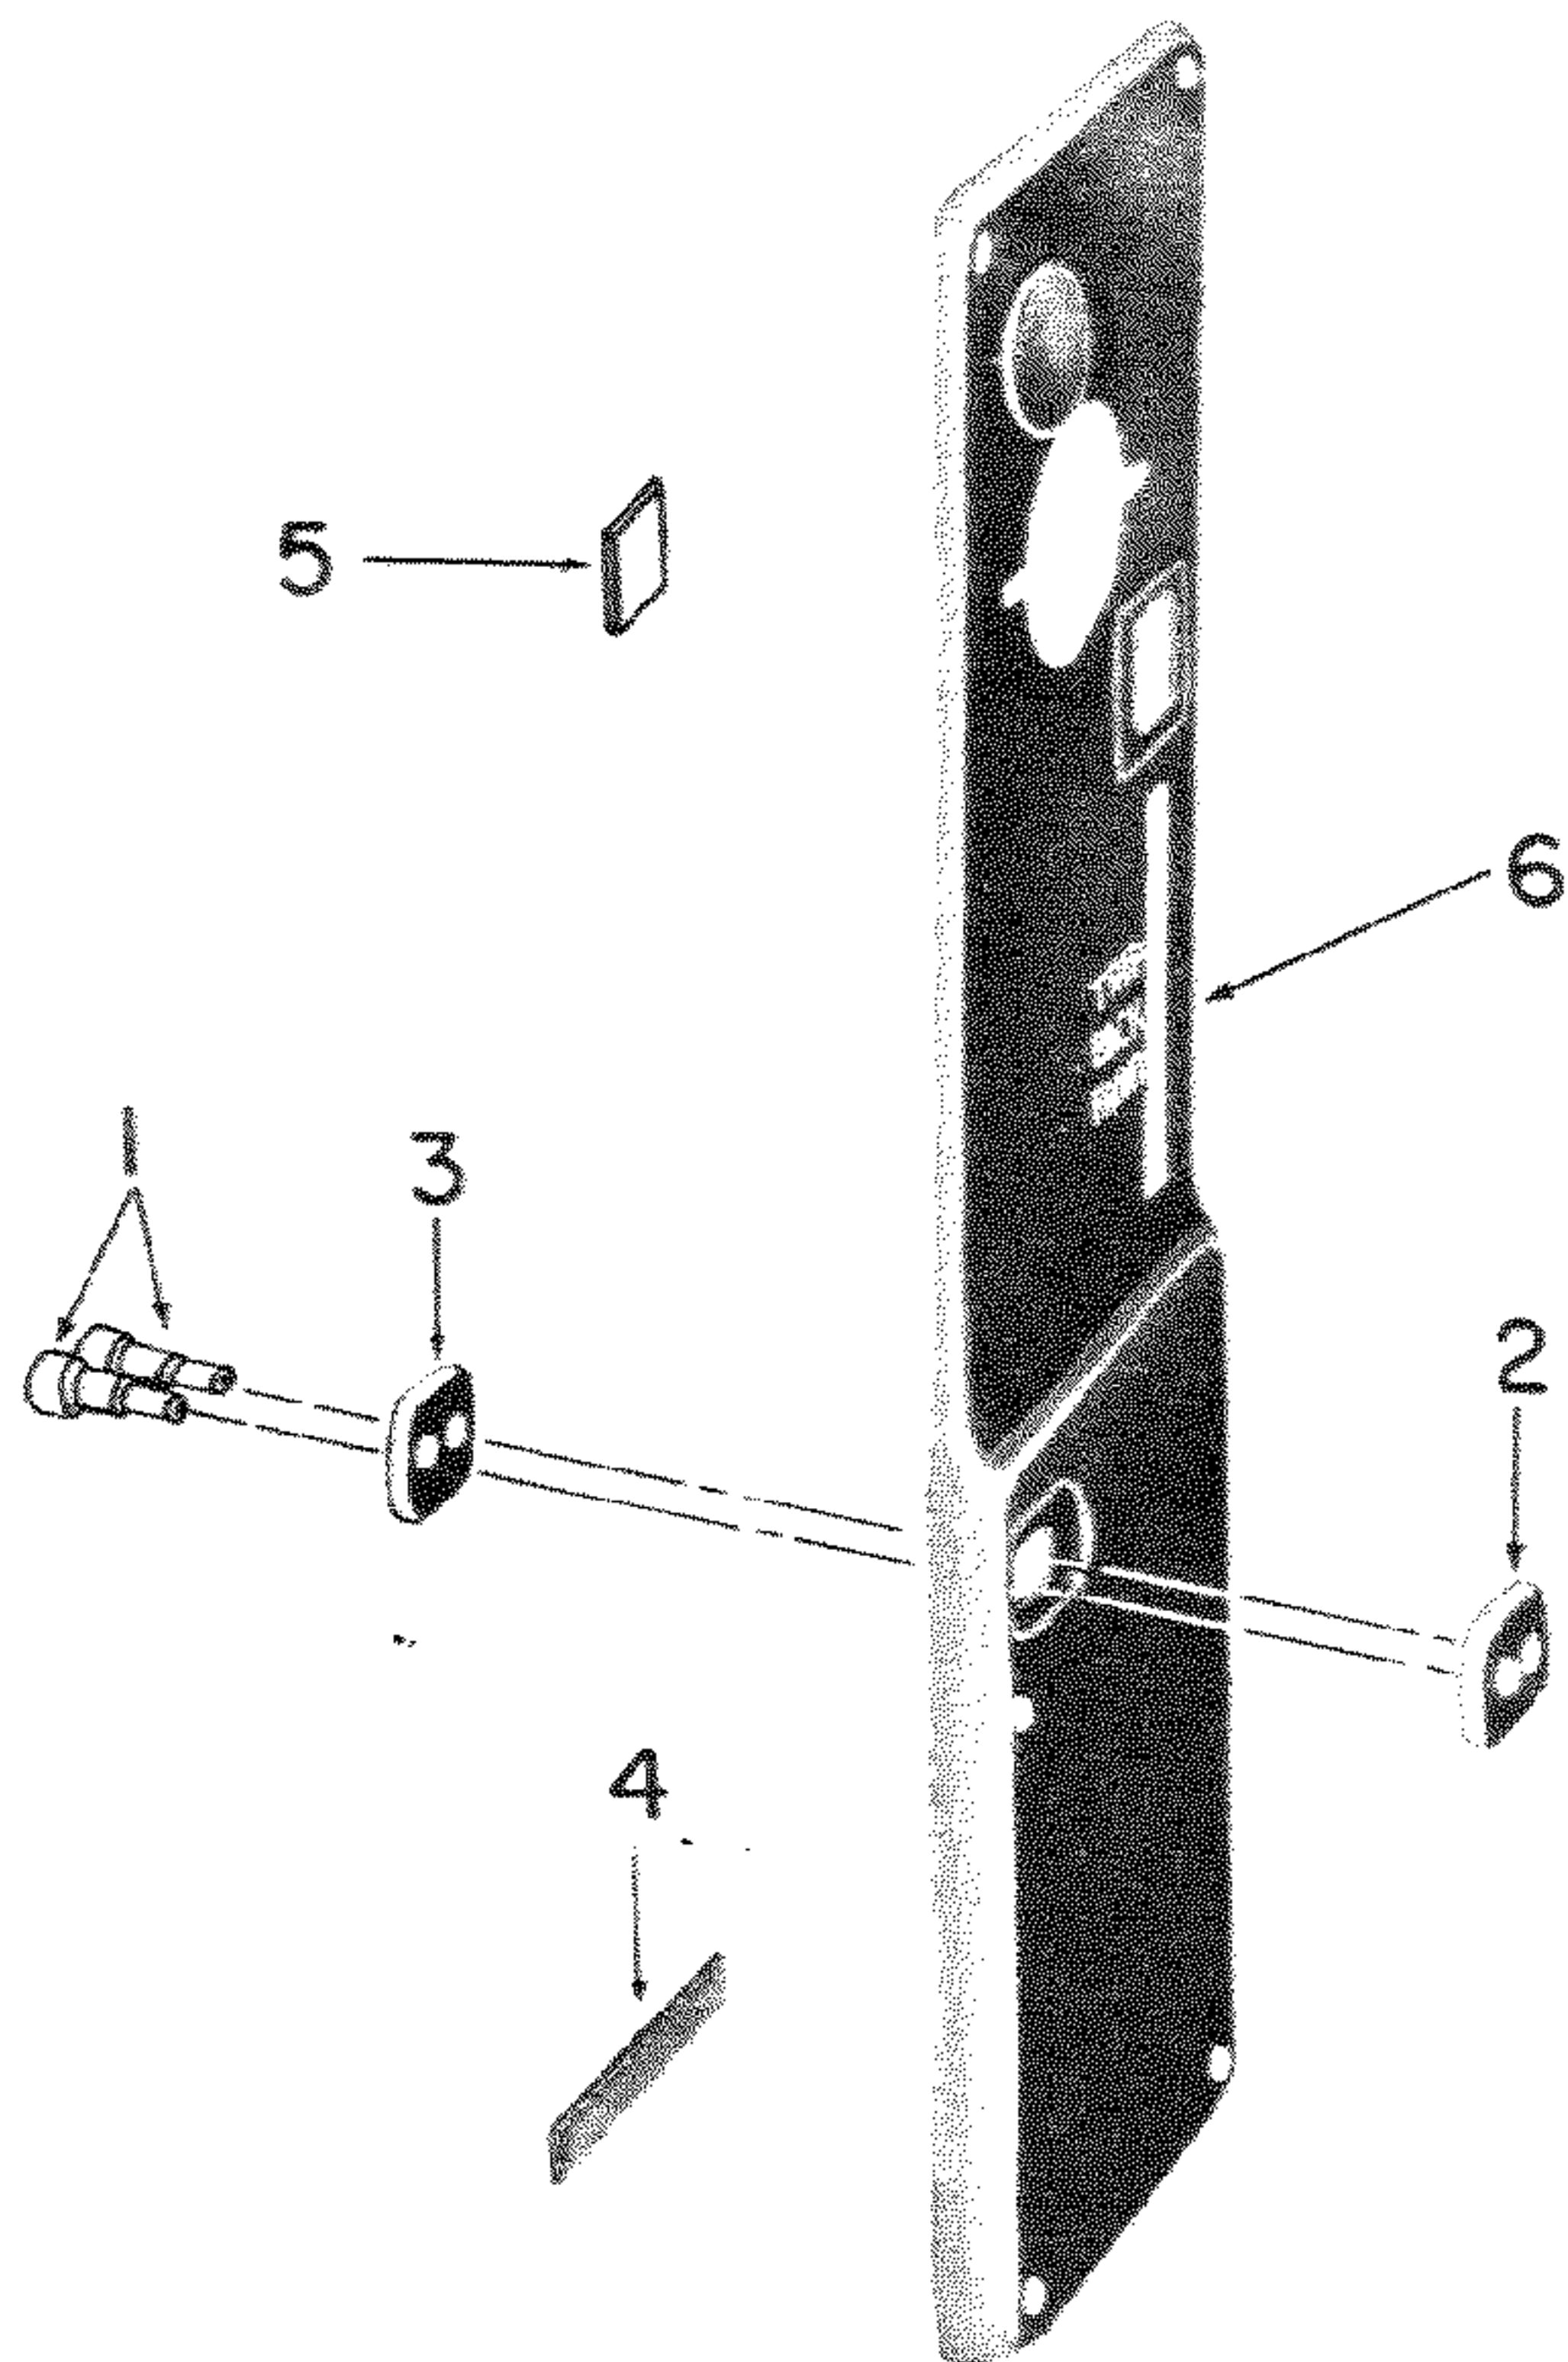
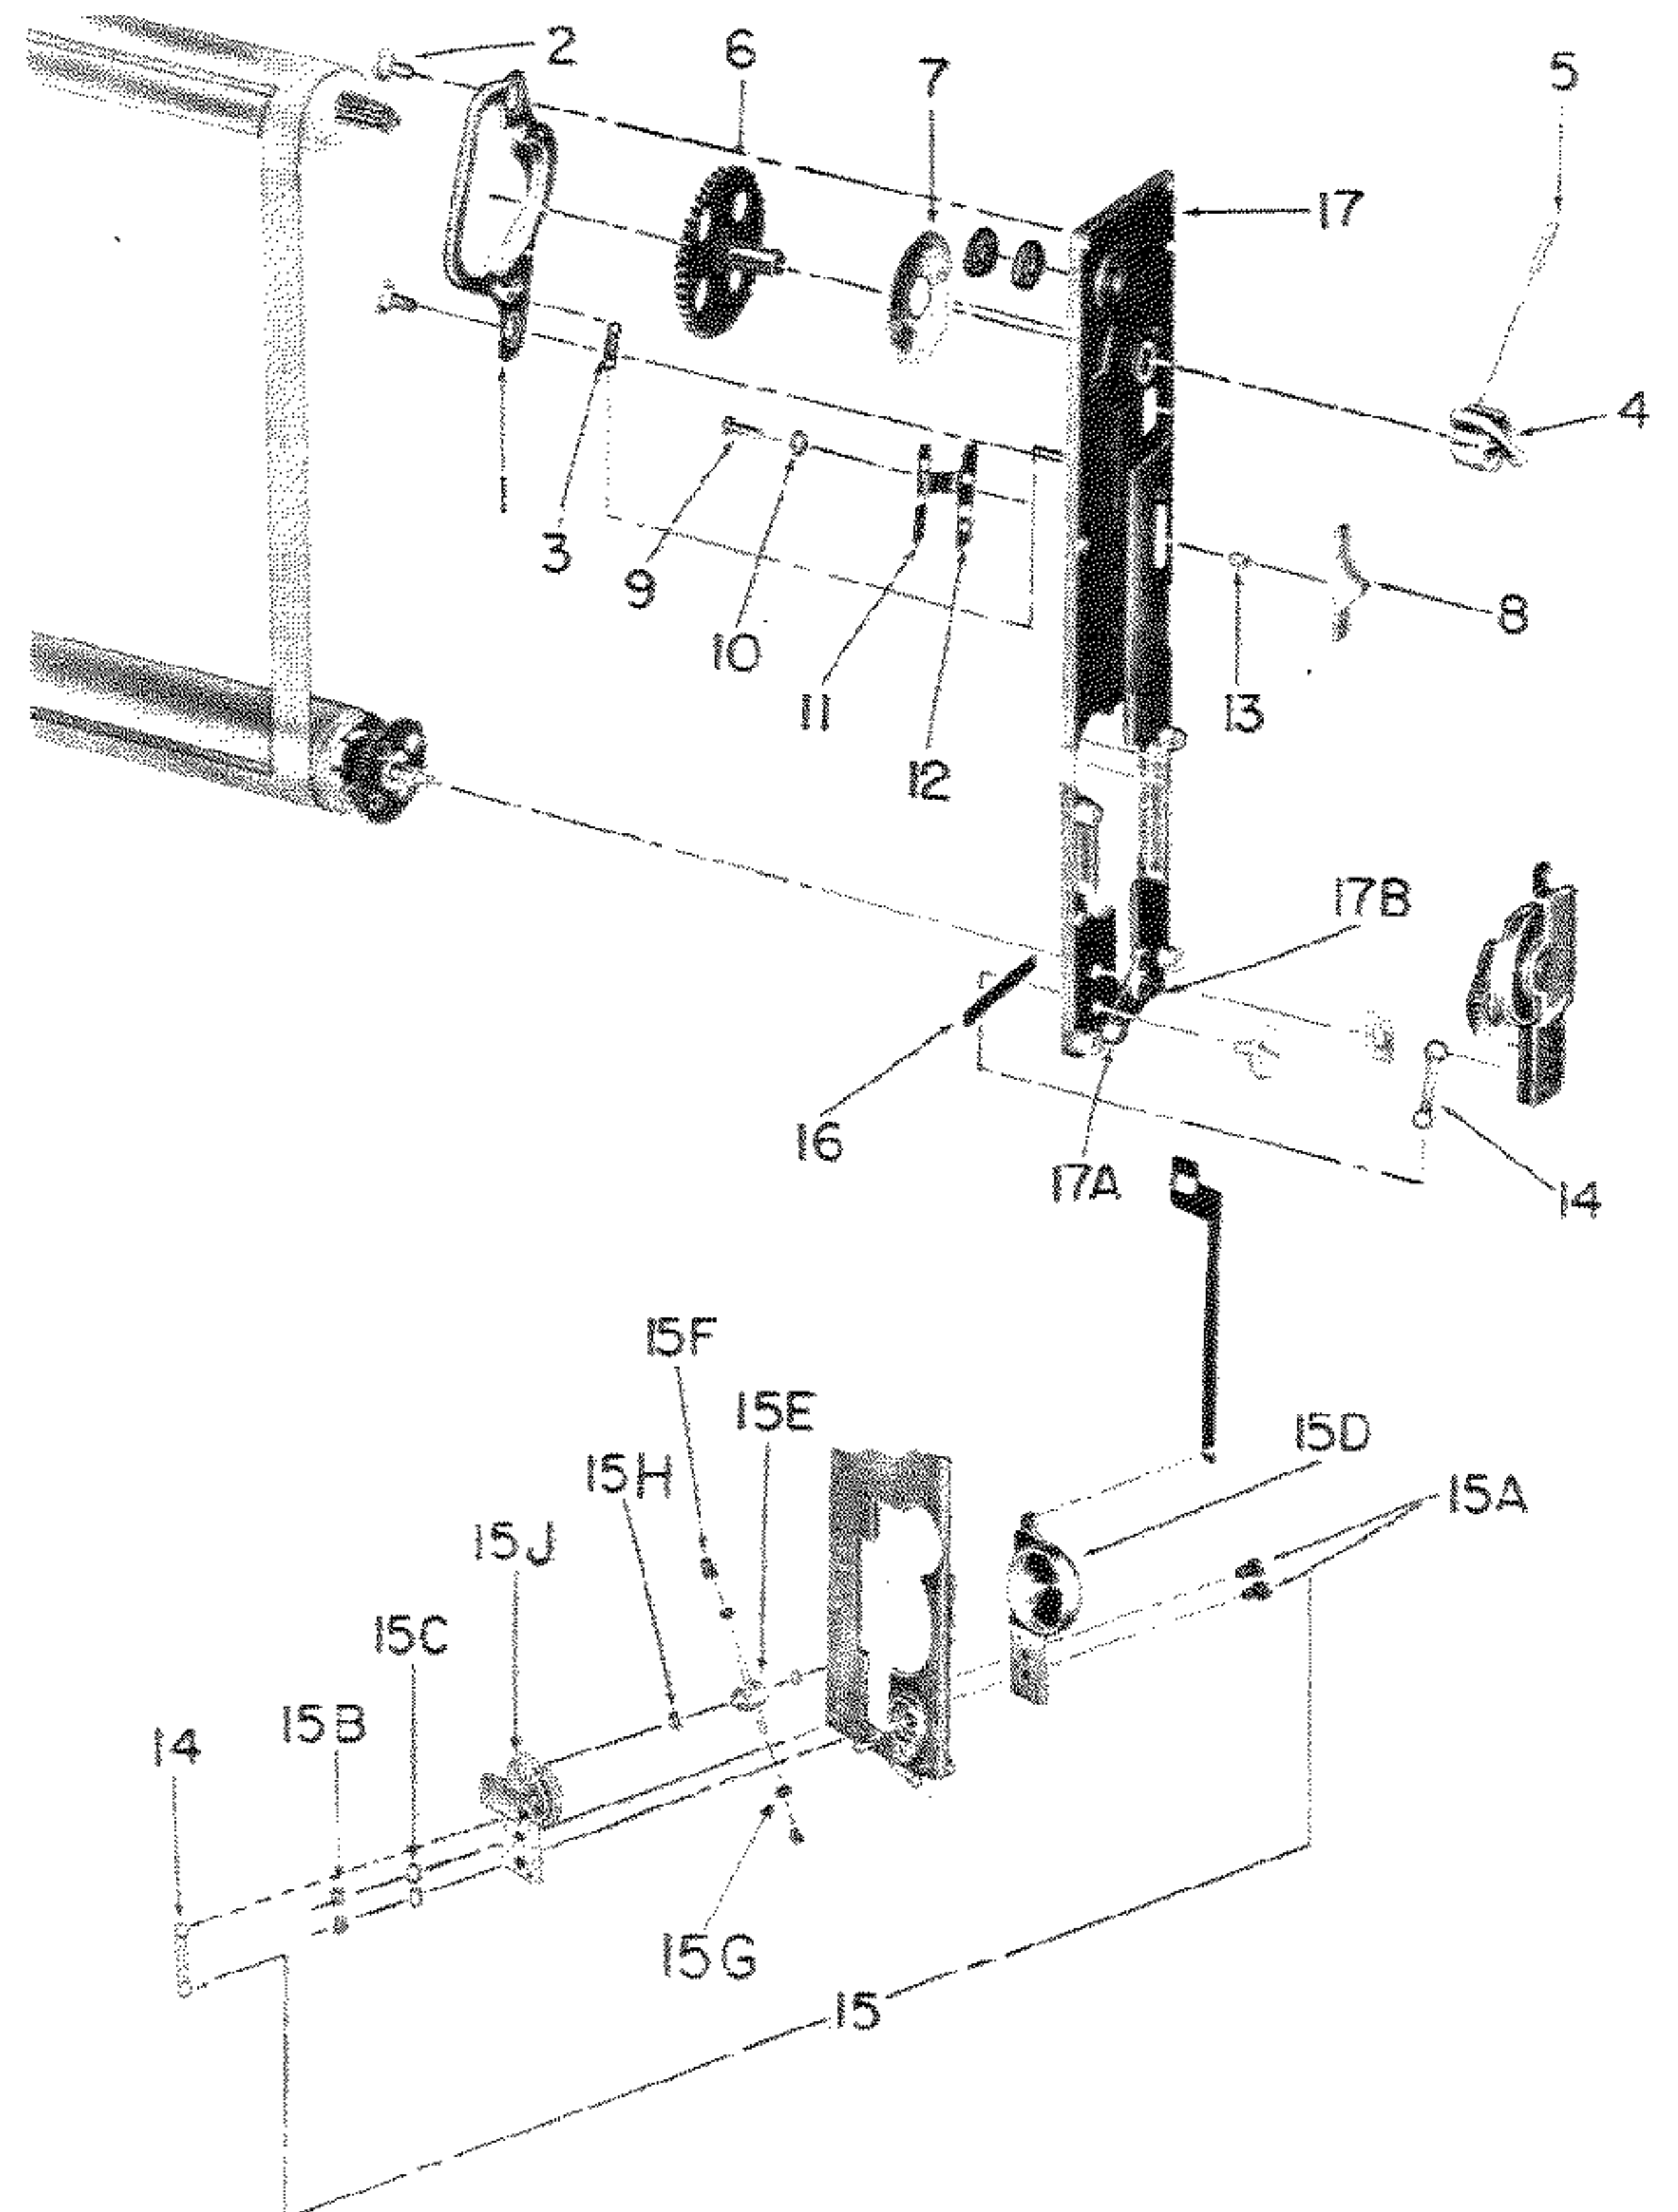

Figure 17. Cover Shutter Plate
Figure 18. Shutter Plate
2. Remove stud (1, figure 17), insulator (2), and washer (3), if necessary.
1. Remove the slide dial (8, figure 3) from the governor stud. Remove the shaft retainer screw (6) and slowly unwind the tension shaft retainer (7). Swing the retard cam lever assembly (17A, figure 18) forward to raise the governor. Remove four wood screws (9, figure 3) and lift the shutter mechanism plate assembly (5) from the camera.
2. The shutter plate (figure 18) is disassembled in four stages; disassemble the portion necessary.
a) Escapement, Master Gear, Winding Key. The escapement (1) is secured by two escapement screws (2). Remove and unhook the escapement spring (3). Remove the taper pin (5), the winding key assembly (4) and then the master gear assembly (6) from the inside. Lift the shutter dial (7) from its boss.
b) Shift Slide (8). To remove, unscrew the machine screw (9) and lock washer (10). Lift off the shift slide spring (11) and the shift slide plate (12) and the shift slide spacer (13).
1. Shutter Plate Cover. Examine the shutter plate cover (2, figure 3) for dents that will obstruct the working of the dial slide (8) or governor assembly. Using a stiff brush, brush the fabric dust seal (4, figure 17) to remove dust and grit that may have collected.
2. Shutter Mechanism Plate Assembly. Clean all parts of the shutter plate (figure 18) with solvent, trichlorethylene (AN-T-37a). Dry all parts thoroughly before reassembly. Check the spring (3 and 14); replace if stretched or deformed. Inspect the gears for worn teeth and loose stop pins.
4. Contacts. Check the height of the receptacle contact (13, figure 21) and the receptacle jumper (21). Both of these must be arched above the wood surface at least 3/16 inch so that they will make positive contact with the receptacle contact studs (1, figure 17). Check the curvature of the spring finger contact (17, figure 3); these contacts should be arched evenly not more than 5/32 inch above the block. If the short and long switch contacts (17 and 19, figure 21) are causing an electrical short, remove the body release plate assembly (11), paragraph VI.A. and replace the contacts.
3. Shutter Mechanism Plate Reassembly (figure 18). If the governor complete (15), has been dismantled, lubricate by wiping the outside ends of the governor shoes (15F) and governor pinion assembly (15E) with graphite powder, AN-G-24. The governor shoes must slide freely on the cross shaft of the pinion assembly. Reassemble the governor as follows:
a) Position the bottom bracket assembly (15J) on the lower cut-out of the plate assembly (17).
d) Hook the governor spring (14) to the bottom bracket assembly (15J) and to the lower stud on the plate assembly (17).
a) Assemble the lock washer (10), the shift slide spring (11), the shift slide plate (12) and the shift slide spacer (13) on the machine screw. Position this assembly in the long slot and screw on the shift side. Turn the shift slide (8) to a vertical position and tighten the machine screw.
b) Position the shutter dial (7) on its boss at the back of the plate.
c) Lubricate the master gear (6) lightly with grease Mil-G-3278 and insert. Make sure that the stem gears mesh with the shutter dial.
d) Note the taper of the pin hole of the winding key assembly (4) and position it on the master gear shaft to coincide with the taper of that hole. Assemble taper pin (5) and set the pin with a drive punch and light hammer.
e) Attach the escapement spring (3) to the necked stud of the escapement assembly (1) attached to the stud at the back of the plate assembly (17). Position the escapement (1) over its bosses and assemble the escapement screw (2).
c) Rotate the winding key until "0" appears squarely in the upper half of the speed shutter dial window (5, figure 17) when the upper master gear pin is stopped against the top step of the escapement (1) figure 18).
d) With the bottom strut of the curtain 1/4 inch from the upper, inside edge of the frame, position the shutter mechanism plate assembly (5, figure 3) over the pinion ends of the curtain rollers (10). The escapement actuating lever of the concealed body release plate must contact the bottom stud of the escapement assembly (1, figure 18) and the shutter selector shift slide and the shutter selector lever of the concealed body release (located near the middle) must contact the bottom shift plate slide (12). The gear of the top roller meshes with the master gear assembly (6).
e) Swing the retard cam lever assembly (17A) forward to raise the governor complete (15). Drop the bearing shaft of the tension roller in the lower bearing hole of the plate (17). At the forward edge of the plate is a narrow cut-out which fits with a raised lip of the concealed body release plate.